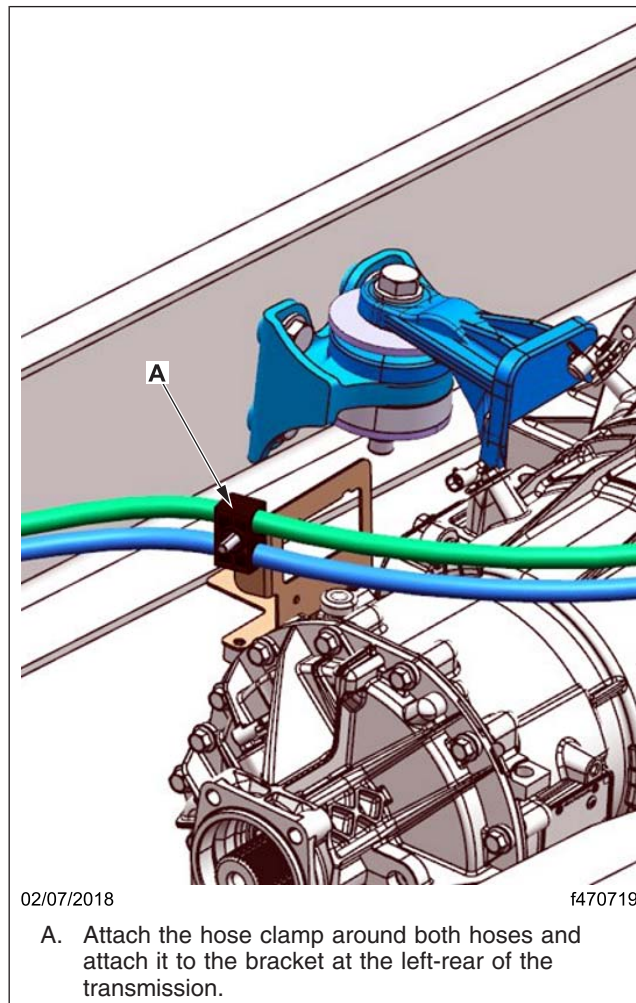

Fig. 2, Attaching the Hose Clamp
3. Attach the hose clamp and the 5/16-inch flange nut from the kit to the existing bracket at the left-rear of the transmission. See Fig. 2.